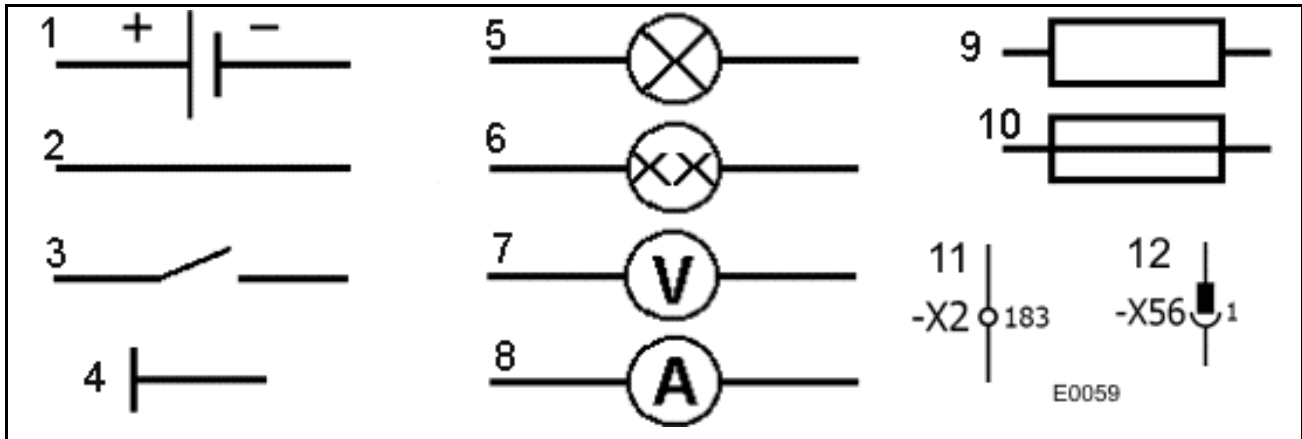

Fig. 21 Example: Circuit symbol
Different symbols are used to simplify the differentiation of terminal strips 11 (Fig. 21) and plugs (12) in a wiring diagram.